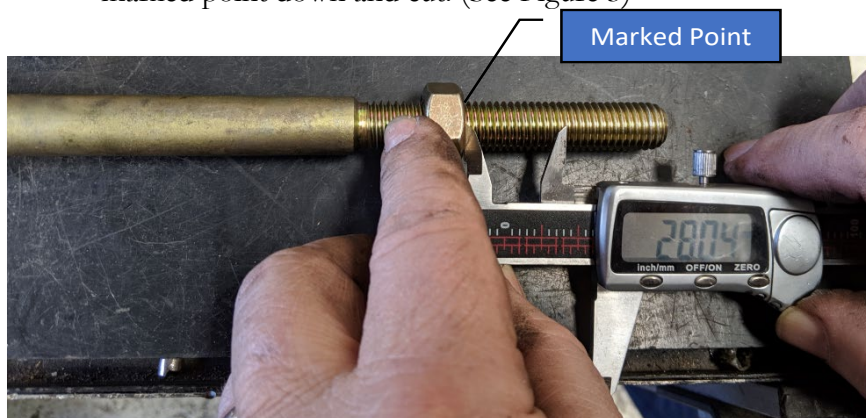

Figure 3. Trimming the Link Pin to Vehicle Specifications
- Remove the assembly from the vehicle, measure approximately 28mm from the marked point down and cut. (See Figure 3)